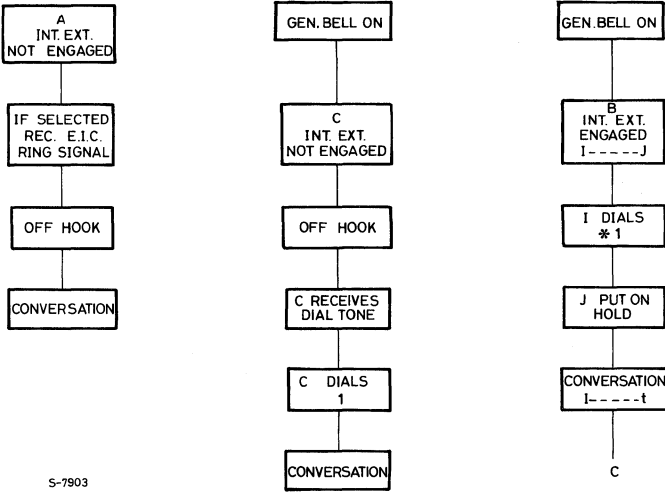

Figure 1. Pick Up an Incoming Call
**Day Service** (see Figure 1 and 2). The incoming calls from either external trunk line ring all internal extensions. Any extension can pick up the incoming call by going off-hook.
At point C (in Figure 1) an alternate conversation (I or t) controlled by "I" is possible using the command "\*5". Or a call conference using the command \*4 or a recall using the command \*6. For flow chart B the call cannot be picked up if "I" has a person on hold.